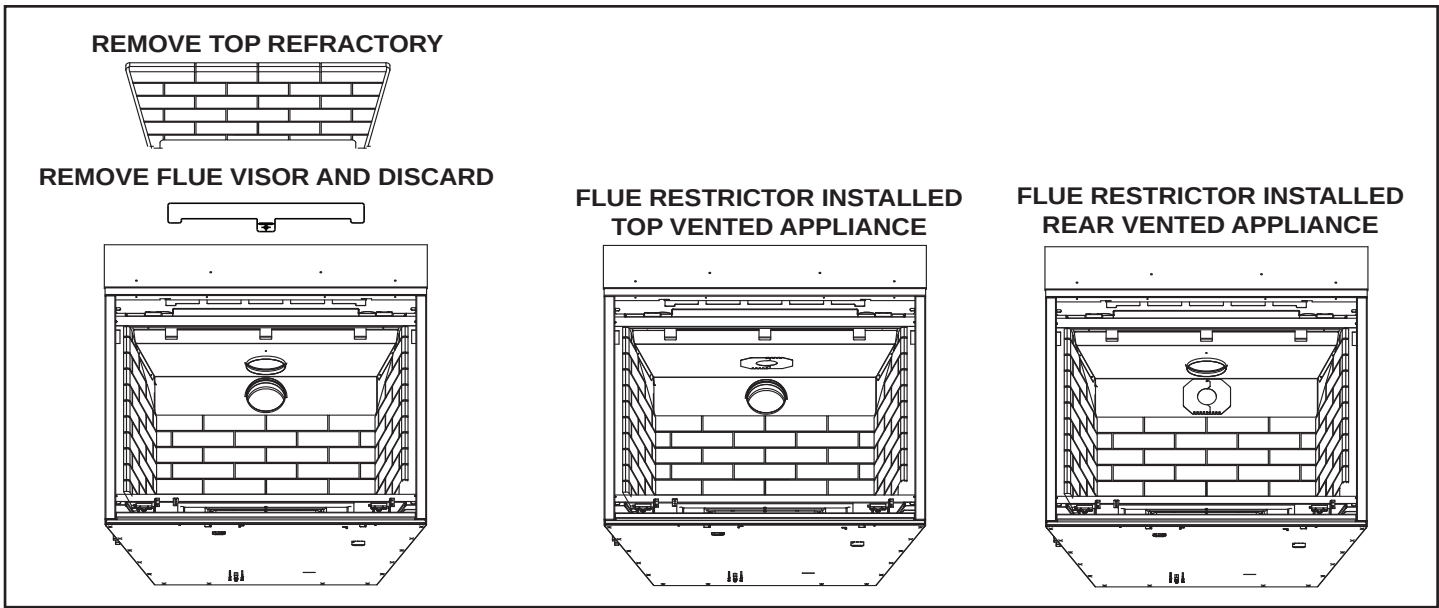

Figure 4.16
- 1. Remove the top piece of refractory, if already installed. See Figure 4.16.
- 2. Remove the flue visor and discard. See Figure 4.16.
- 5. Center the two flue restrictor pieces on the vent at the setting selected in step 4 and secure in place by using two self-tapping screws. See Figure 4.16.